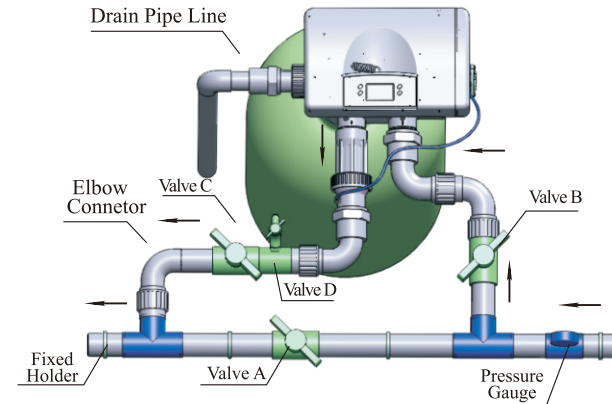

Figure 1-3
③ Pipeline connection
a. As Figure 1-3 shows, install a pressure gauge in water inlet.